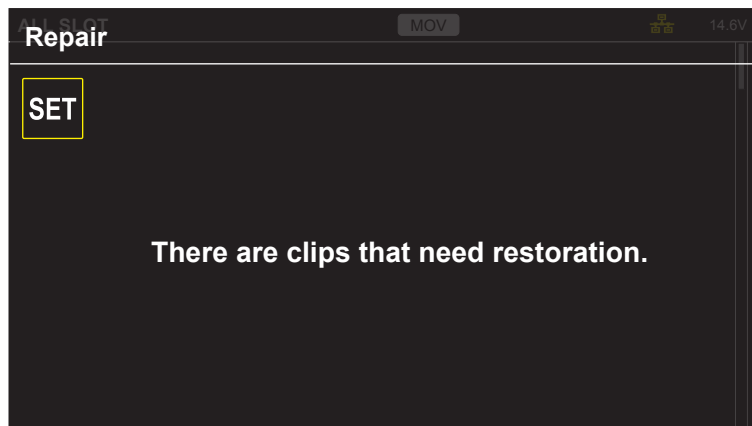

Fig. 1
- 1 Select [SET] in the error message screen. (Fig. 1)**